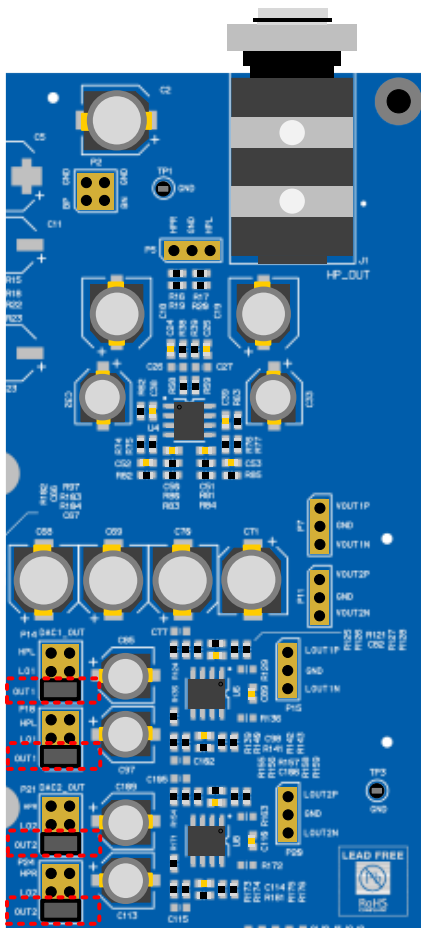

Figure 13: DAC Output to OUT1/OUT2
- OUT1/OUT2 (Default) – 2 V_{RMS} output on Dunglass OUT1 and OUT2, shown in Figure 13.